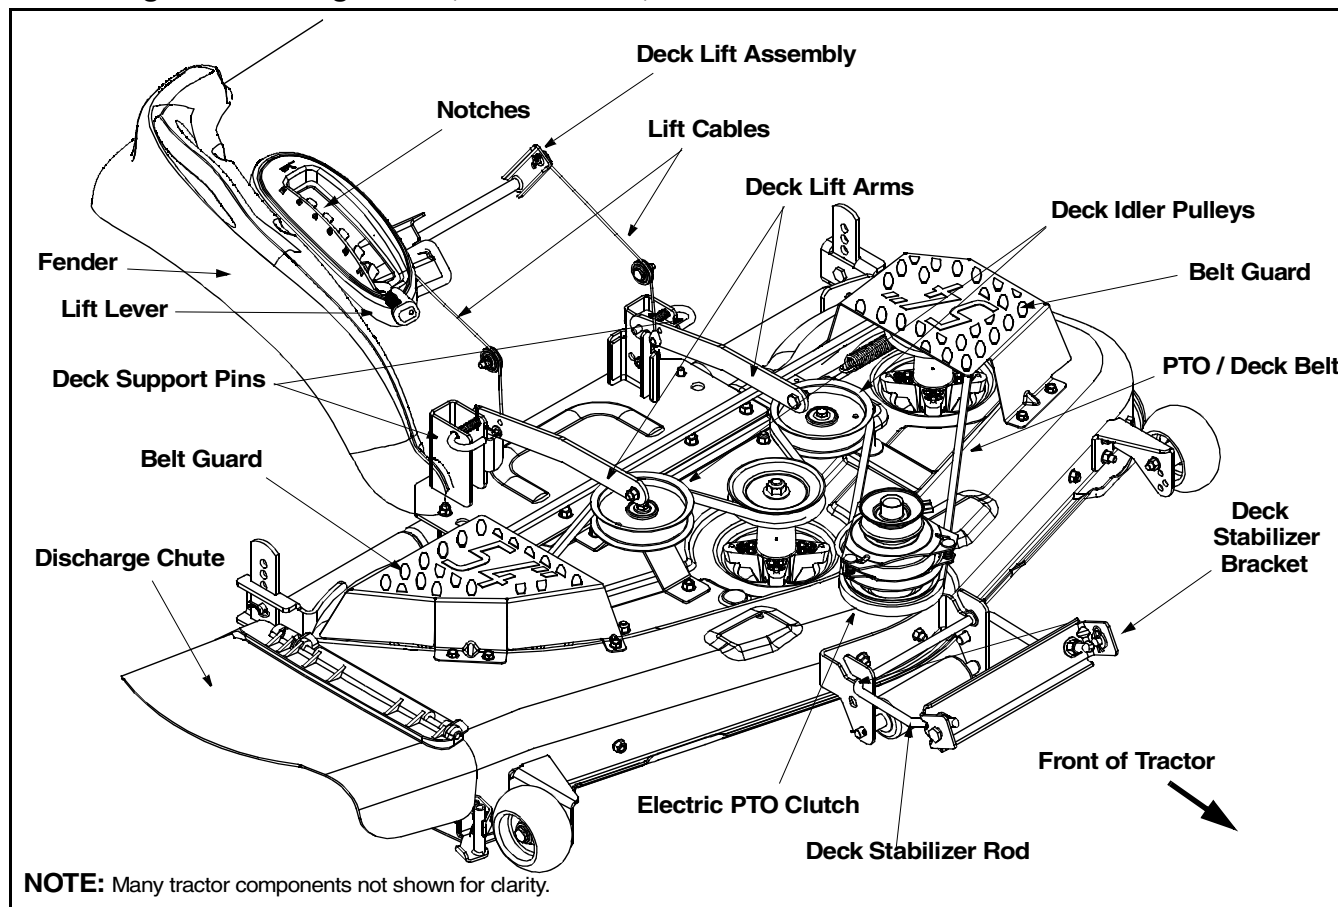

Figure 3
- Move the cutting deck into position so that the hooks found on the front end of the deck fit snugly around the deck stabilizer rod as shown in Figure 3.
- Raise the left side of the cutting deck by grasping the deck and lifting upward. Pull the deck support pin (on the left side of the deck) outward and align it with the hole on the rear of the left deck lift arm before releasing the pin to lock it in place as shown in Figure 3. Repeat on the right side.
- Make certain that the PTO belt is routed around the spindle pulleys (found beneath the belt guards) and both idler pulleys as illustrated in Figure 3.
- Route the PTO belt around the electric PTO clutch as shown in Figure 3.